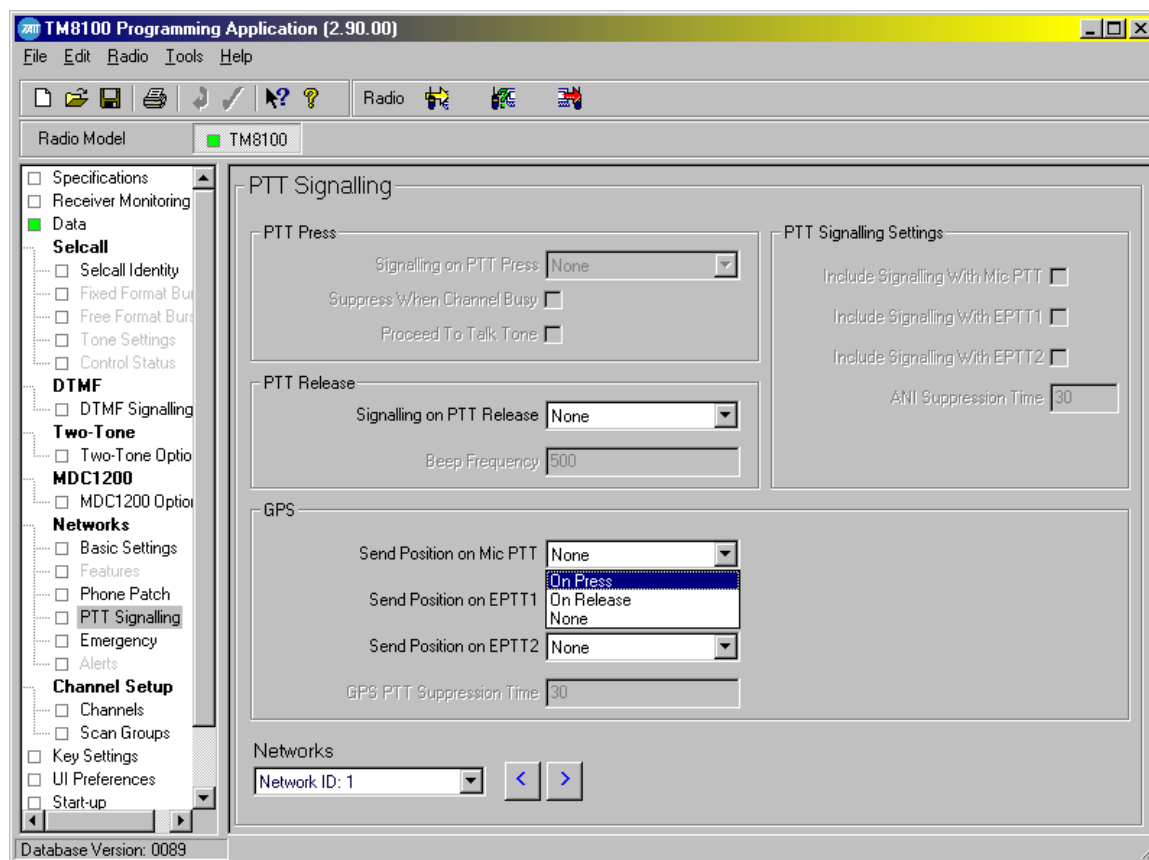

Fig 8: Configuring PTT GPS requirements
1. GPS location information can also be sent as a leading or trailing ANI on any one of the 3 PTT's. (See Fig 8)